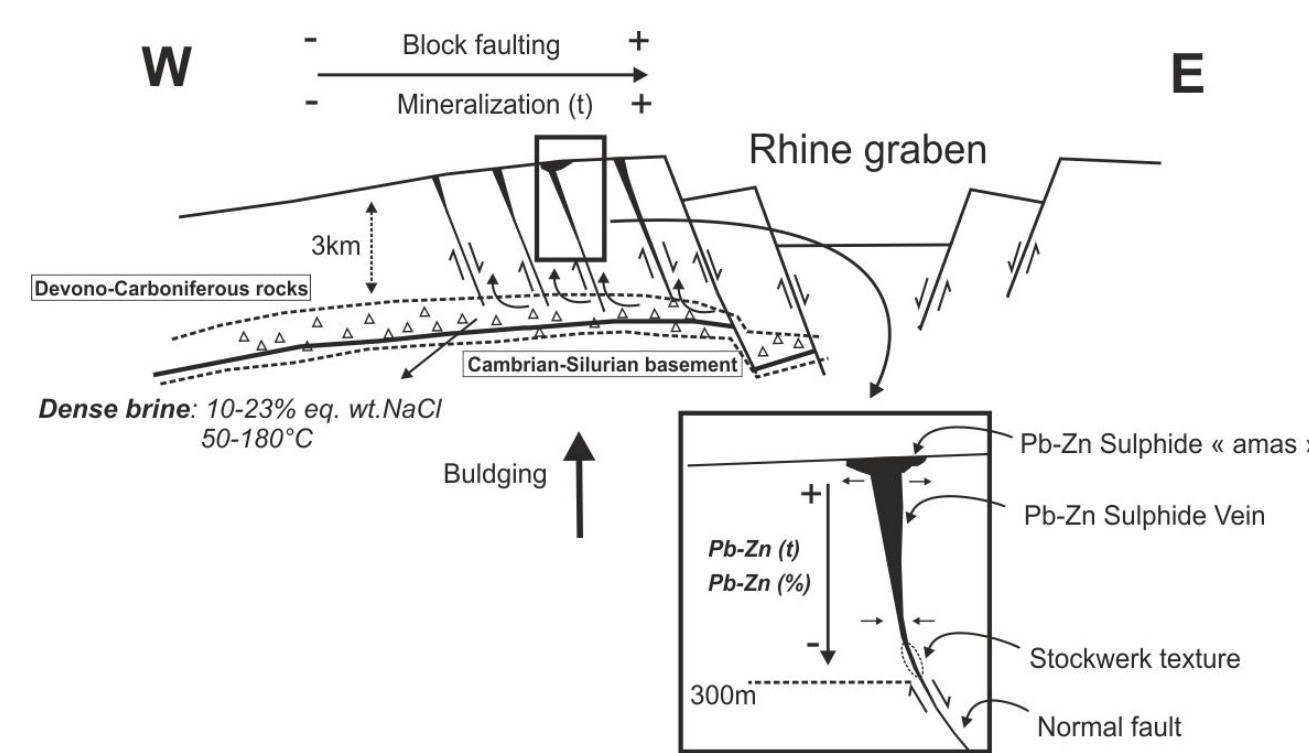

Fig 2: Genesis of the Belgian MVT deposits
3) From Permian to Tertiary periods, formation of transversal faults due to the extension of the Rhine graben. Mineralization of Pb-Zn-Fe sulphides during Jurassic era due to a suction pump mechanism (Fig2) (Mucchez et al., 2000)